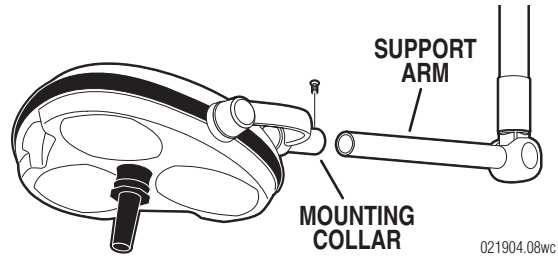

Figure 6. Lighthouse Installation
b. Remove the four (4) screws from the light-head mounting stub.
c. Install the lighthouse mounting collar onto the support arm and secure with the screws previously removed. See figure 6.